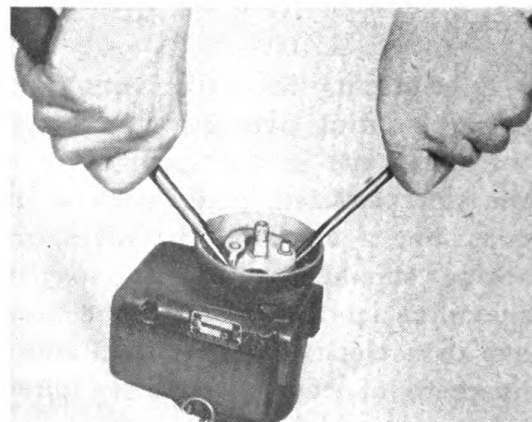

Figure 118
g. DRIVEN FLANGE GROUP AND TRIP ARMS—After having removed the impulse lock nut, drive cup, drive spring, and various spacing washers, the driven flange group may be removed. If the flange sticks, insert two screwdrivers 180° apart, under the flange and gently pry it off (See Figure 118). When replacing the driven flange group, make certain that it is pressed on to the shaft as far as it will go. Since the flat on the rotor shaft is